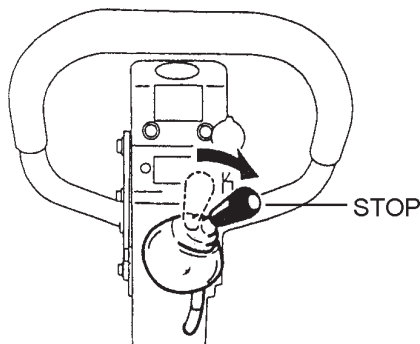
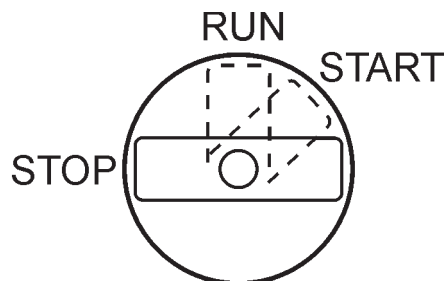

Figure 15. Throttle Lever (Stop)
Figure 16. Starter Switch (STOP)
2. Turn the throttle lever to the **STOP** position (Figure 15) to stop the engine. In a motor start, return the key switch to the **STOP** position (Figure 16) as soon as the engine stops.